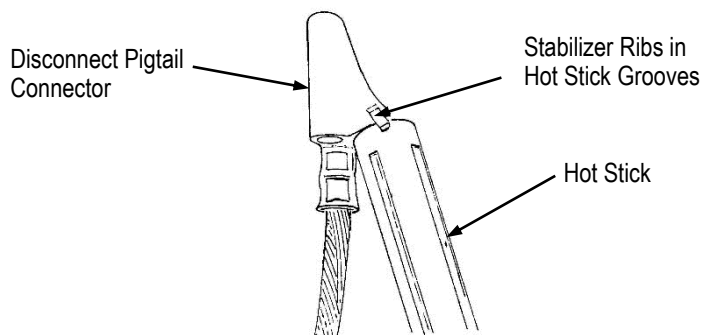

Figure 5
4. Using a hot stick, grip disconnect eyebolt, and secure disconnect assembly utilizing the stabilizing ribs as shown in Figure 5.